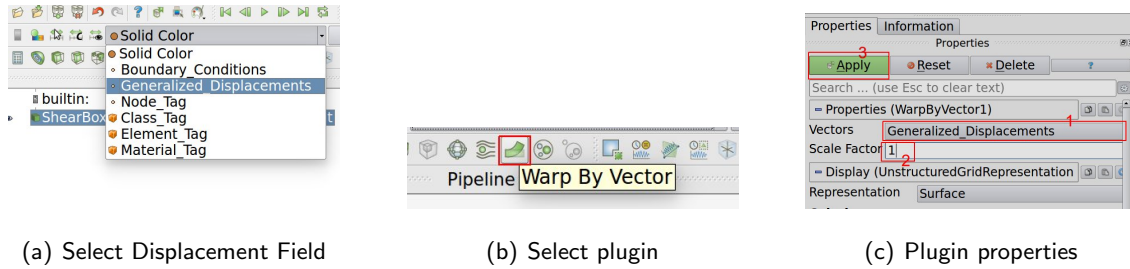
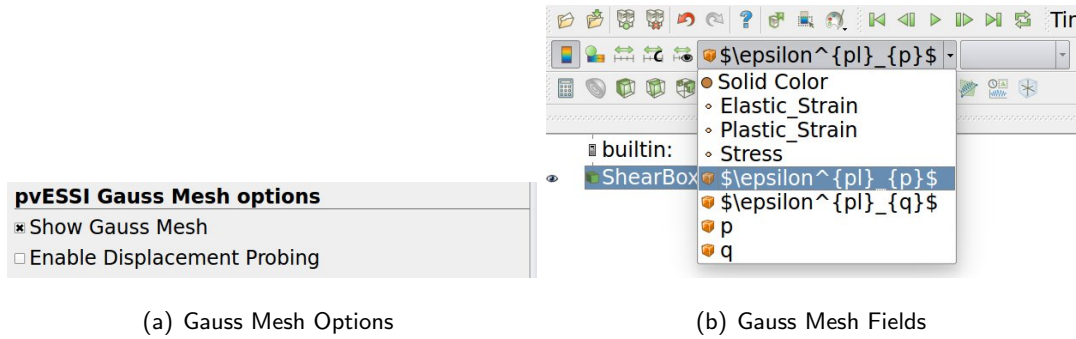
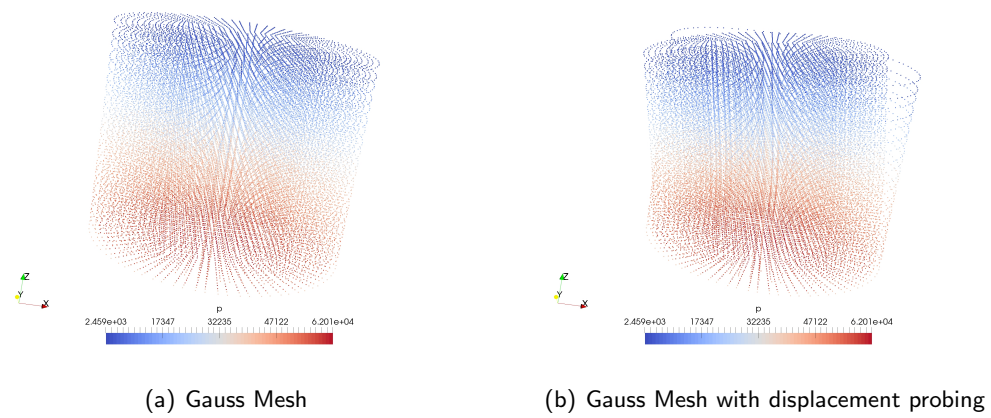

Figure 1.10: Deformation Visualization.
Figure 1.20: Visualizing Gauss mesh and it's fields.
Figure 1.21: Visualization of mean effective stress  $p$  invariant in Gauss mesh.
2. **Vector Field visualization :** This is achieved using 'Wrap by Vector' plugin available in ParaView. Figure 1.10 and Figure 1.11 shows steps to visualize deformed mesh.
3. Apply warp by vector plugin and follow the steps as shown in Figure 1.10
It must be noted that the Enable Displacement Probing options only works when Show Gauss Mesh mode is enabled. Figure 1.20 shows the steps to visualize Gauss mesh.
The various fields that can be visualized in Gauss mesh mode as shown in Figure 1.20 are shown below.
3. Enable Gauss mesh as shown in Figure 1.20(a). Select Mean Effective Stress  $p$  [Pa]. The resulting visualization is shown in Figure 1.21(a).
4. Enable displacement probing as shown in Figure 1.20(a). Apply a warp by vector filter and select the vector displacement as shown in Figure 1.10. Now select again the Mean Effective Stress  $p$  [Pa] field option to visualize. The resulting visualization is shown in Figure 1.21(b).